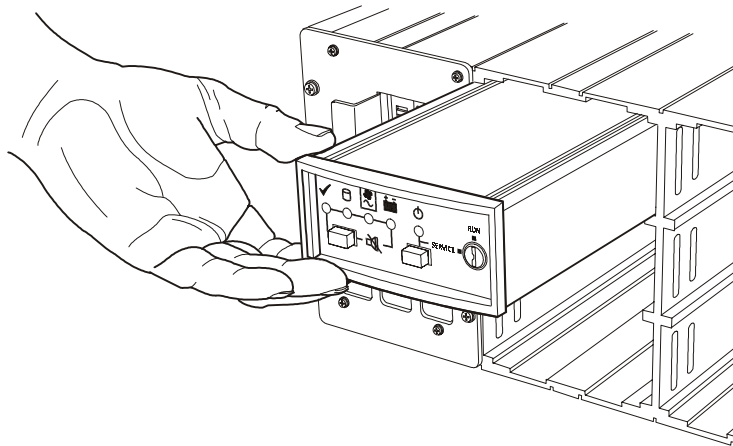

Figure 4-4 Installing an ESI/OpsPanel Module (Rear Mounting)
- 2 Grip the front panel surround or the key (turned to the Service position) firmly and slide the unit out of the enclosure bay. (Figure 4-4)
Install the module by sliding into the correct rear bay 3/1 ensuring the module has docked with the connector and the retention clip has engaged with the chassis. (Figure 4-4)